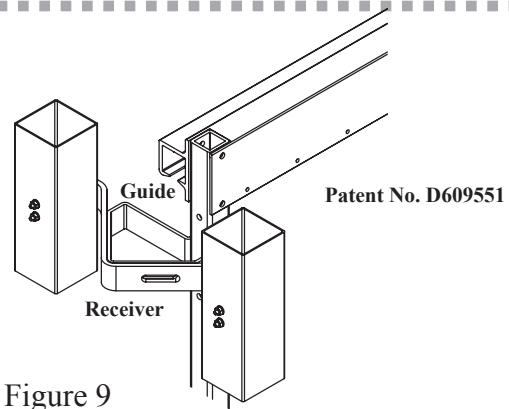

Figure 9
11. To mount the two (2) gate latches, begin by sliding the gate to the fully closed position. Install the guides on the leading edge of the gate, just below top track and just above bottom track, using fasteners provided. Attach the receiver assemblies to the tandem receiver posts so that they are aligned with the guides. See Figure 9.